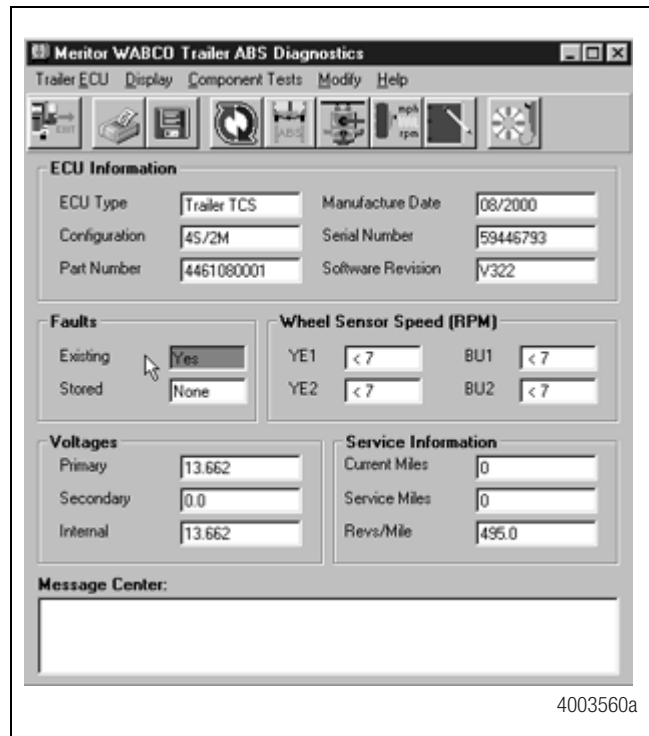

Figure 20
- Apply 12 volts DC to the blue wire (constant). Check the screen for the correct voltage (9.5 to 14 volts). Constant power voltage is displayed in the PRIMARY field. Figure 20.
- Apply 12 volts DC to the red wire (stoplight power). Check the screen for the correct voltage (9.5 to 14 volts). Stoplight power voltage is displayed in the SECONDARY field. Figure 20.